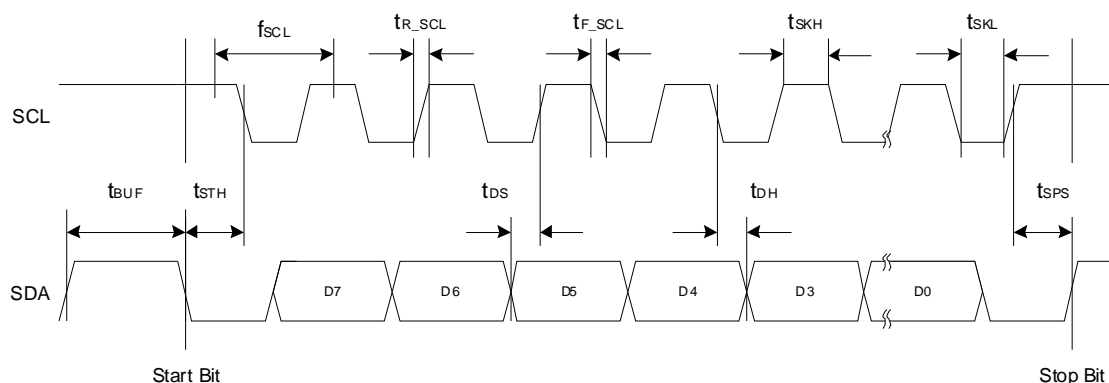

Figure 1. I2C Timing DiagramTable 12. Interrupt ( $\overline{\text{INT}}$ ) Specifications
**Table 11. SMBus (I2C) Timing Specifications (see Figure 1)**